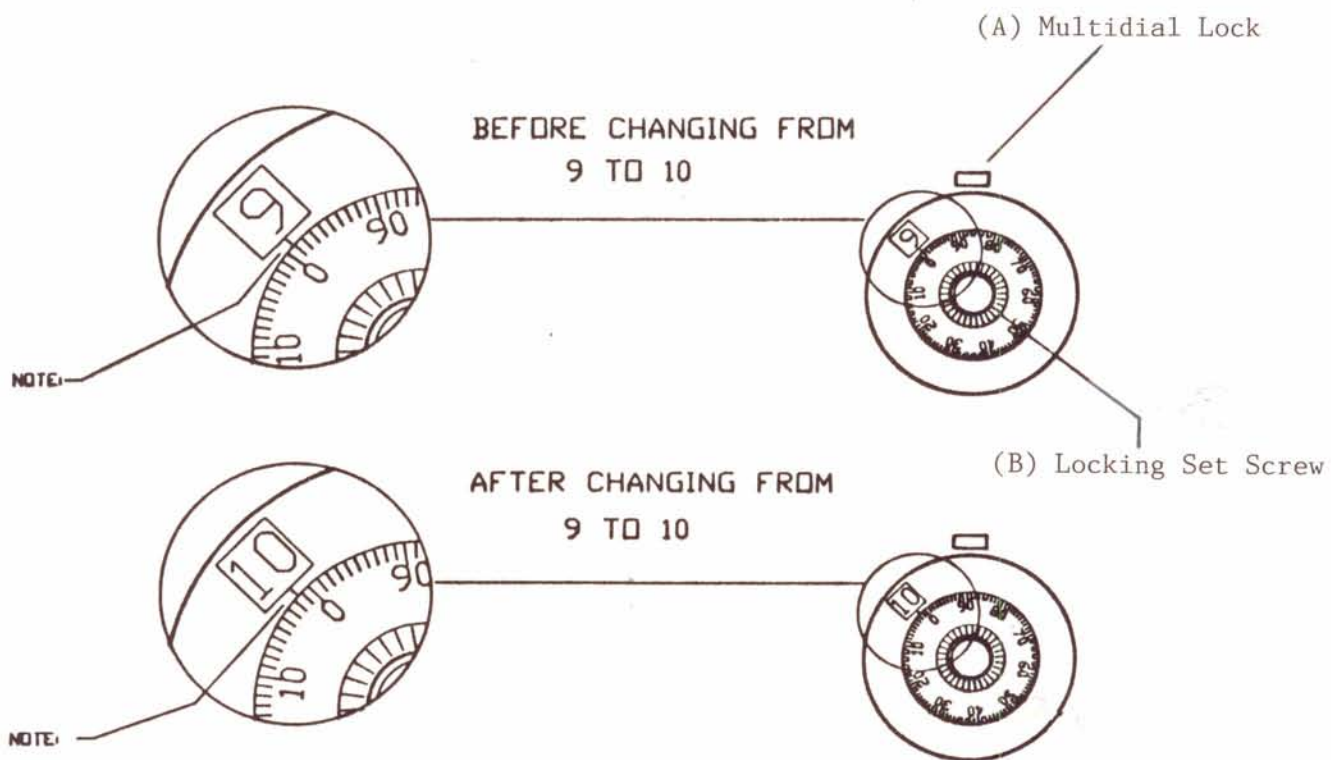

Figure 3
4. Grasp the upper belt guide at the unload end of the machine and swing upward toward the load end of the machine allowing access to the die sets. Loosen the locking set screw (figure 1, item K) on each of the die sets using the 3mm balldriver provided. Loosen the lock (figure 3, item A) on each of the die position multidials (figure 1, item H).
6. Tighten the locking set screw on the die being calibrated to secure the die in place. Loosen the set screw (figure 3, item B) on the multial for the die being calibrated using the .035" hex key provided.
7. Turn the multial in either direction until 10.0 is displayed in the window as shown in figure 3. Tighten the set screw on the multial and loosen the locking set screw on the die. Reposition the die away from the lower belt guide and remove the calibration tool.
Loosen the locking set screw (figure 1, item K) on each of the die sets being used with the 3mm balldriver provided. Loosen the lock (figure 3, item A) on each of the die position multidials (figure 1, item H) for those dies. Adjust the position of the dies by turning the multidial in the direction as needed until the desired setting is obtained. Tighten the locking set screw and multidial lock when finished.